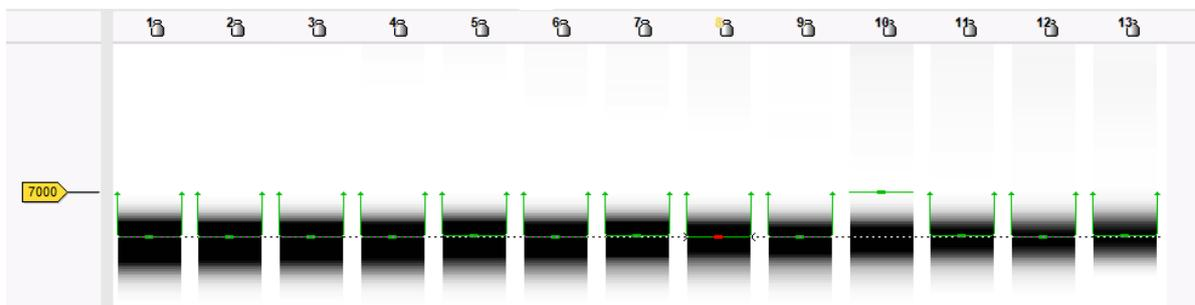

Figure 18: Correction lane 8.
45. In lane 8, **Ctrl+Click** on the correct position of the upper marker to link that peak to the reference position (see Figure 18).